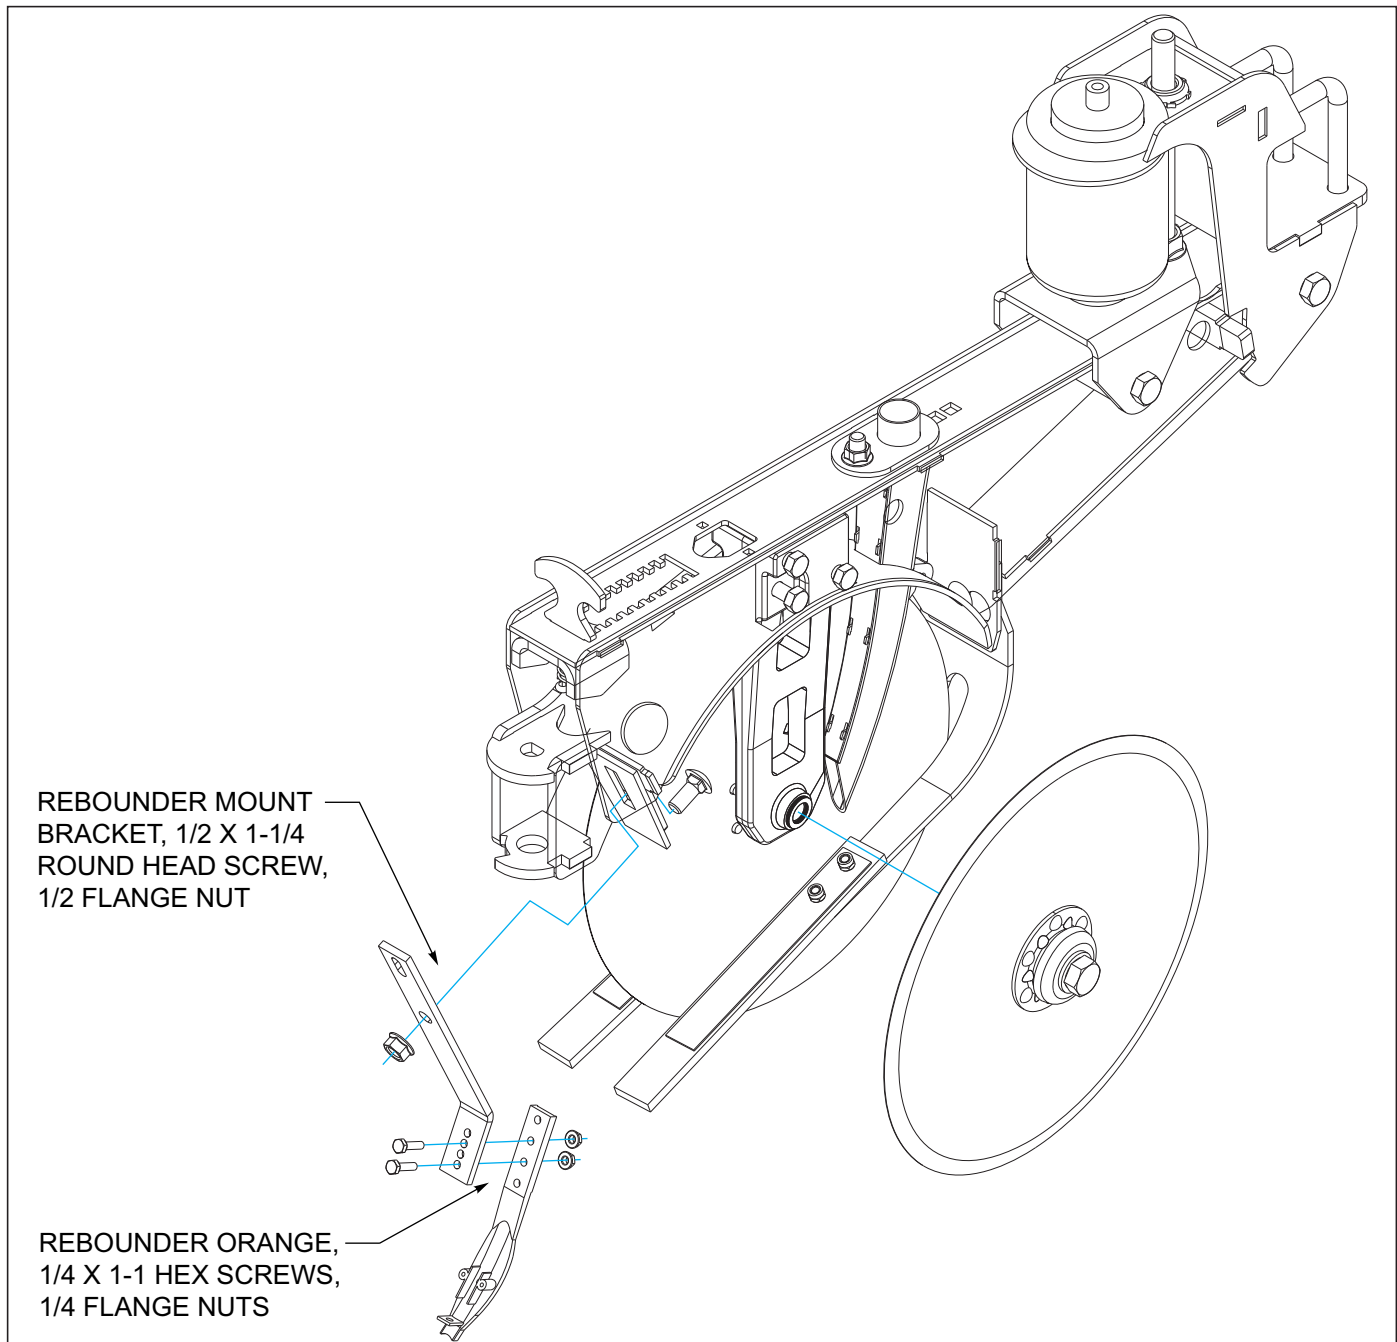

Figure 3-1: Rebounder Assembly
1. Attach rebounder mount bracket with 1/2 x 1-1/4 round head screw and 1/2 flange nut **See Figure 3-1.**